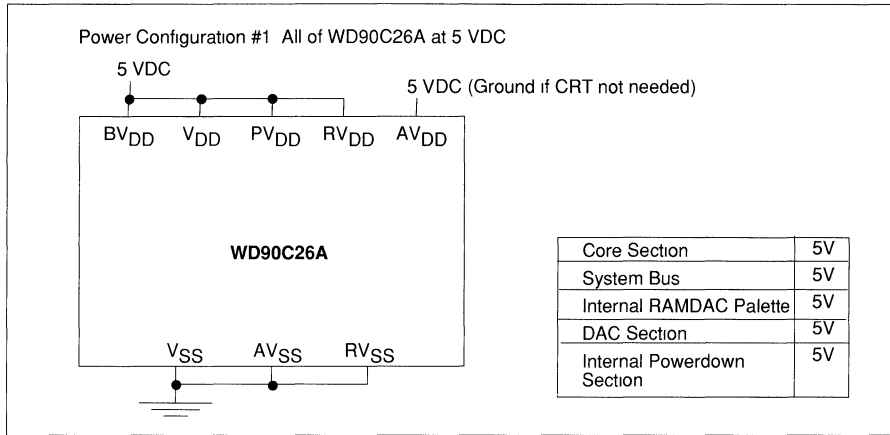

FIGURE 6-3 POWER CONFIGURATION FOR 5 VDC OPERATION
- Power Configuration for 5.0 VDC Operation (Figure 6-3)
The WD90C26A may be operated at 5 VDC by connecting all its V_{DD} pins to a 5 VDC power source (see Figure 6-3).